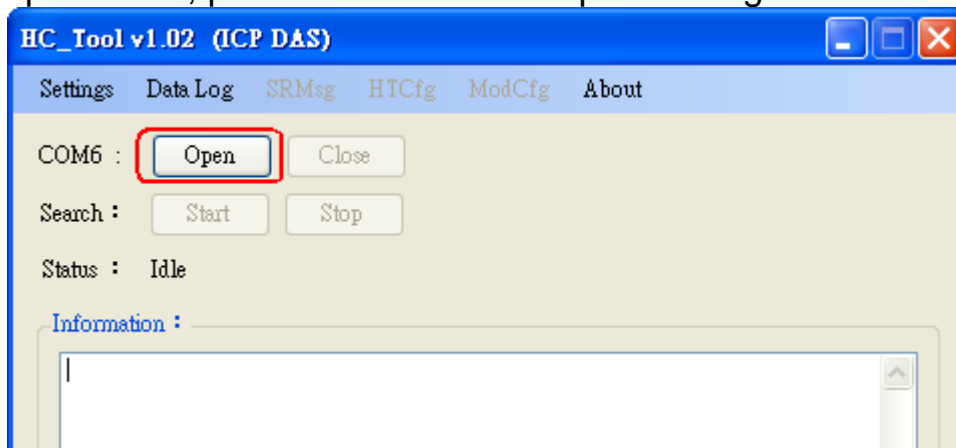

Figure 4-7: Click “Open” button
(1) Click “**Open**” button to open the com port of PC like Figure 4-7. If com port open failed, please check the com port setting.